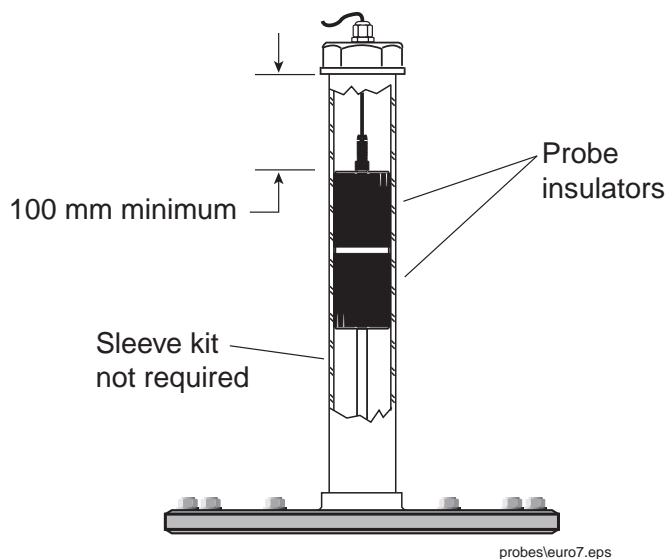

Figure 4. Probe canister - 2-inch riser installation
- Risers, when fitted, should be a minimum of 100 mm above the probe canister (see Figure 4).
- The Mag Plus probe canister is always be completely contained within the riser. When installing into 2-inch risers, a Probe Insulator must be fitted to the probe canister. Probe Insulators provide electrical insulation and are supplied with 2-inch Probe Installation Kits (see Figure 4).